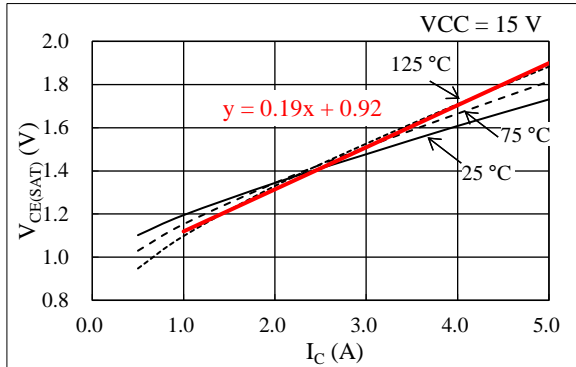

Figure 14-1. Linear Approximate Equation of $V_{CE(SAT)}$ vs. I_C
Steady-state loss in an IGBT can be computed by using the $V_{CE(SAT)}$ vs. I_C curves, listed in Section 15.3.1. As expressed by the curves in Figure 14-1, a linear approximation at a range the I_C is actually used is obtained by: $V_{CE(SAT)} = \alpha \times I_C + \beta$. The values gained by the above calculation are then applied as parameters in Equation (4), below. Hence, the equation to obtain the IGBT steady-state loss, P_{ON} , is: